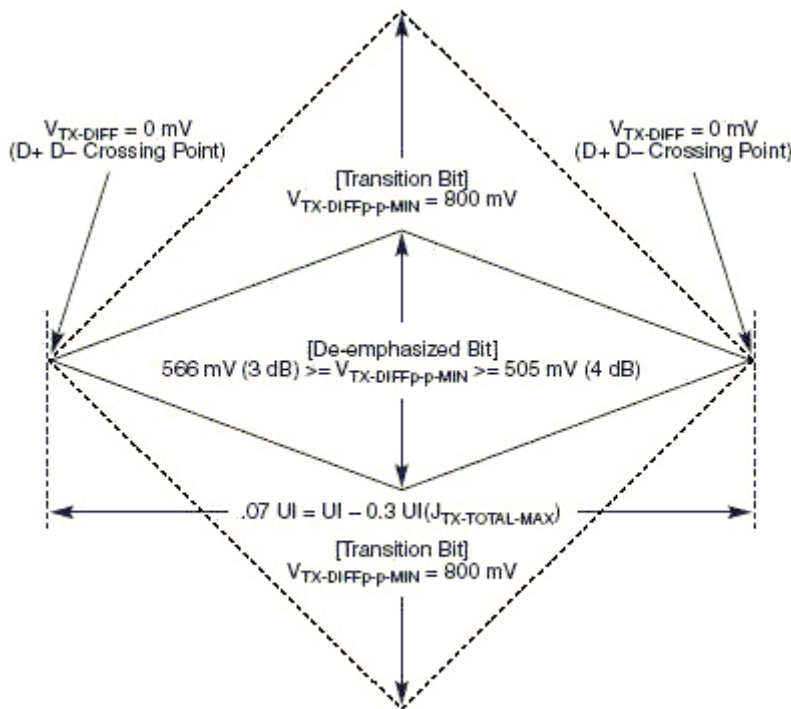
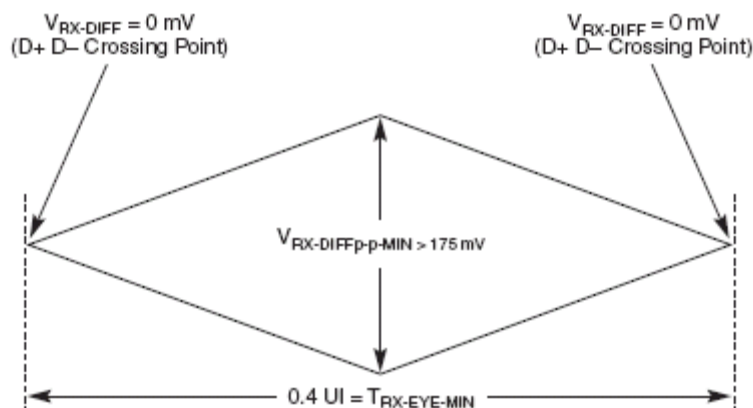
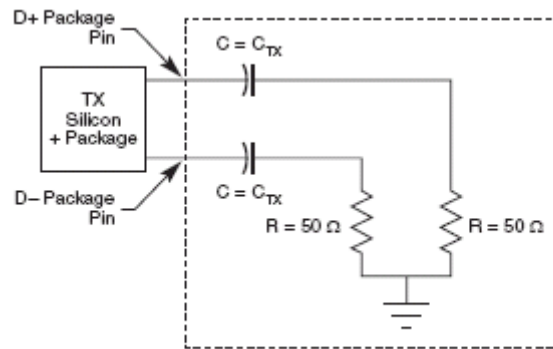

Figure 55. Minimum Transmitter Timing and Voltage Output Compliance Specifications
Figure 56. Minimum Receiver Eye Timing and Voltage Compliance Specification
Figure 57. Compliance Test/Measurement Load
2. Specified at the measurement point into a timing and voltage compliance test load as shown in Figure 57 and measured over any 250 consecutive TX UIs. (Also refer to the transmitter compliance eye diagram shown in Figure 55.)
4. The Transmitter input impedance shall result in a differential return loss greater than or equal to 12 dB and a common mode return loss greater than or equal to 6 dB over a frequency range of 50 MHz to 1.25 GHz. This input impedance requirement applies to all valid input levels. The reference impedance for return loss measurements is 50 ohms to ground for both the D+ and D- line (that is, as measured by a Vector Network Analyzer with 50 ohm probes—see Figure 57). Note that the series capacitors  $C_{TX}$  is optional for the return loss measurement.
5. Measured between 20-80% at transmitter package pins into a test load as shown in Figure 57 for both  $V_{TX-D+}$  and  $V_{TX-D-}$ .
The TX eye diagram in Figure 55 is specified using the passive compliance/test measurement load (see Figure 57) in place of any real PCI Express interconnect + RX component.
- Specified at the measurement point and measured over any 250 consecutive UIs. The test load in Figure 57 should be used as the RX device when taking measurements (also refer to the Receiver compliance eye diagram shown in Figure 56). If the clocks to the RX and TX are not derived from the same reference clock, the TX UI recovered from 3500 consecutive UI must be used as a reference for the eye diagram.
- The Receiver input impedance shall result in a differential return loss greater than or equal to 15 dB with the D+ line biased to 300 mV and the D- line biased to -300 mV and a common mode return loss greater than or equal to 6 dB (no bias required) over a frequency range of 50 MHz to 1.25 GHz. This input impedance requirement applies to all valid input levels. The reference impedance for return loss measurements for is 50 ohms to ground for both the D+ and D- line (that is, as measured by a Vector Network Analyzer with 50 ohm probes - see Figure 57). Note: that the series capacitors CTX is optional for the return loss measurement.
The RX eye diagram in Figure 56 is specified using the passive compliance/test measurement load (see Figure 57) in place of any real PCI Express RX component.
Note: In general, the minimum Receiver eye diagram measured with the compliance/test measurement load (see Figure 57) will be larger than the minimum Receiver eye diagram measured over a range of systems at the input Receiver of any real PCI Express component. The degraded eye diagram at the input Receiver is due to traces internal to the package as well as silicon parasitic characteristics which cause the real PCI Express component to vary in impedance from the compliance/test measurement load. The input Receiver eye diagram is implementation specific and is not specified. RX component designer should provide additional margin to adequately compensate for the degraded minimum Receiver eye diagram (shown in Figure 56) expected at the input Receiver based on some adequate combination of system simulations and the Return Loss measured looking into the RX package and silicon. The RX eye diagram must be aligned in time using the jitter median to locate the center of the eye diagram.
The reference impedance for return loss measurements is 50. to ground for both the D+ and D- line (i.e., as measured by a Vector Network Analyzer with 50. probes—see Figure 57). Note that the series capacitors, CTX, are optional for the return loss measurement.
The AC timing and voltage parameters must be verified at the measurement point, as specified within 0.2 inches of the package pins, into a test/measurement load shown in Figure 57.